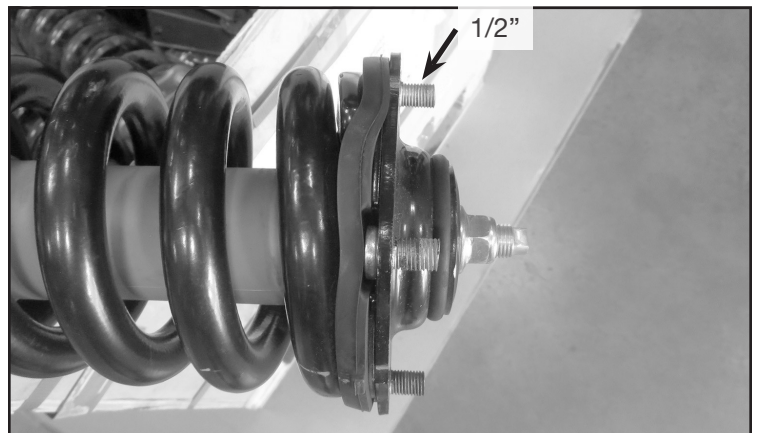

FIGURE 9 - STEP 9
9. Locate the four factory studs on the strut top cap. Measure 1/2" from the base of the stud and mark. The rest of the stud will need to be removed. **SEE FIGURE 9**